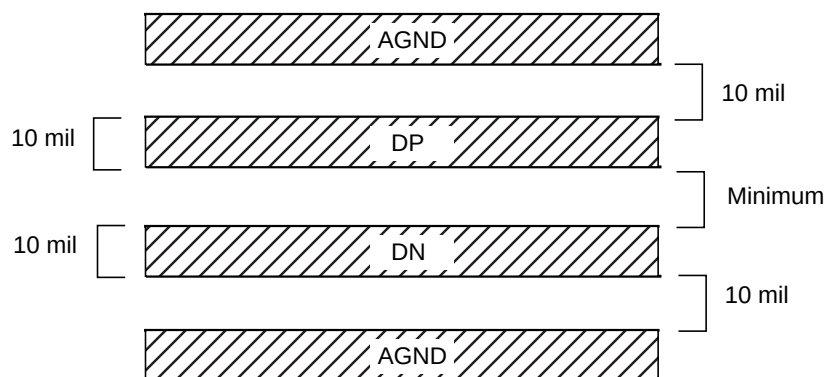

Figure 63. DP and DN, PCB Traces
- Connect guard traces to AGND on either side of the DP and DN traces (Figure 63). An additional AGND plane should be placed "beneath" these traces. With guard traces and AGND plane in place, routing near high-voltage traces is no longer a problem.
- Use wide traces. Narrow ones are more inductive and tend to pick up radiated noise. The 10 mil widths and spacings recommended in Figure 63 are not absolutely necessary (as they offer only a minor improvement in leakage and noise), but try to use them where practical.